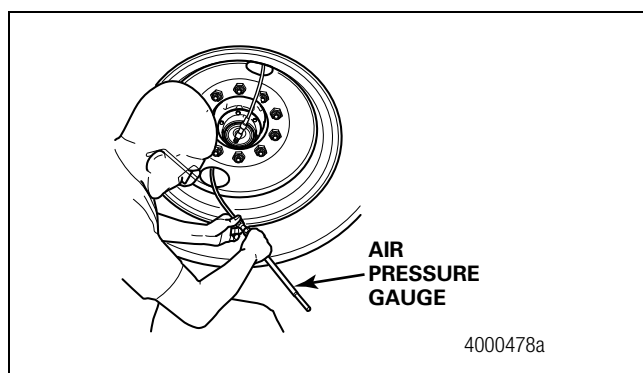
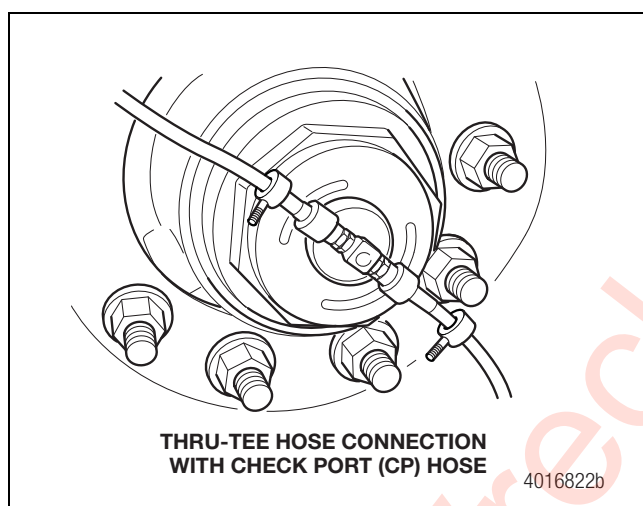
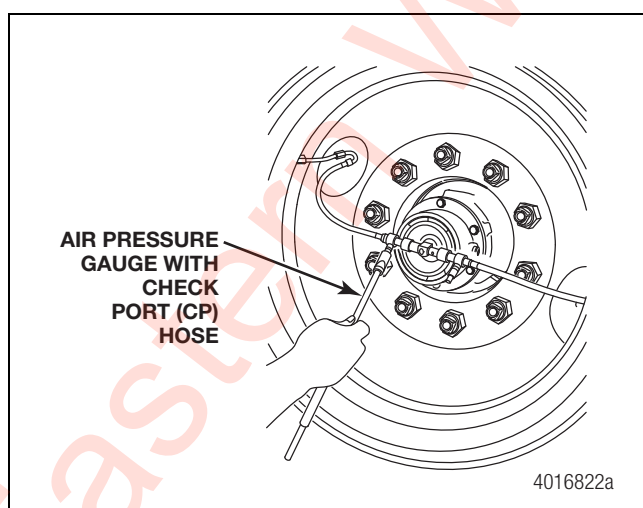

Figure 5.5
Figure 5.6
Figure 5.7
NOTE: If equipped with check port hoses, hose removal to check the tire pressure is not necessary. Check tire pressure at the check port hose as shown in Figure 5.6 and Figure 5.7.
2. Press the tire pressure gauge to the hose and read the pressure. The end of the tire inflation system hose incorporates a standard tire valve fitting. Figure 5.5, Figure 5.6 and Figure 5.7.